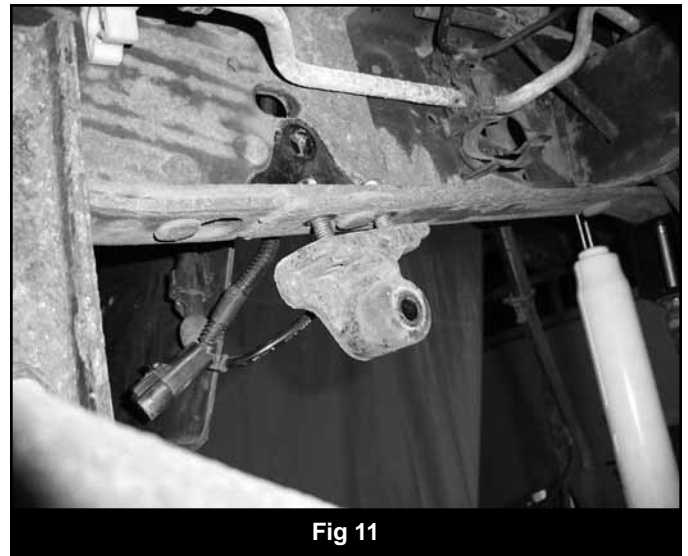

Fig 11
22. Locate the new provided front sway bar links (01028 or 01019), bushings (M02016RB) and sleeves (65). Lightly grease and install the bushings and sleeves into the new link ends. Attach the new links to the frame mount with the original hardware and a 7/16" USS washer (BP 403) against the bushings face. The links are offset and will mount in the same position as the originals. Attach the new sway bar links to the sway bar with the provided 12mm x 80mm bolts, nuts and 7/16" USS washers (BP 403). Torque link hardware to 60 ft-lbs.
- ❖ 013402 ONLY: Some early model trucks had sway bar link frame mounts like the late model trucks that mount inside the frame. If this is the case, remove the two bolts and the mounts from the inside of the frame rails and reinstall on the bottom of the frame with the original bolts (Fig 11). Install the mounts so the small ID of the link mounting hole is toward the inside of the vehicle. Torque the link mount bolts to 35 ft-lbs. Reinstall the factory links to the relocated mount and sway bar with the original hardware. Torque hardware to 60 ft-lbs. The provided links will not be used.